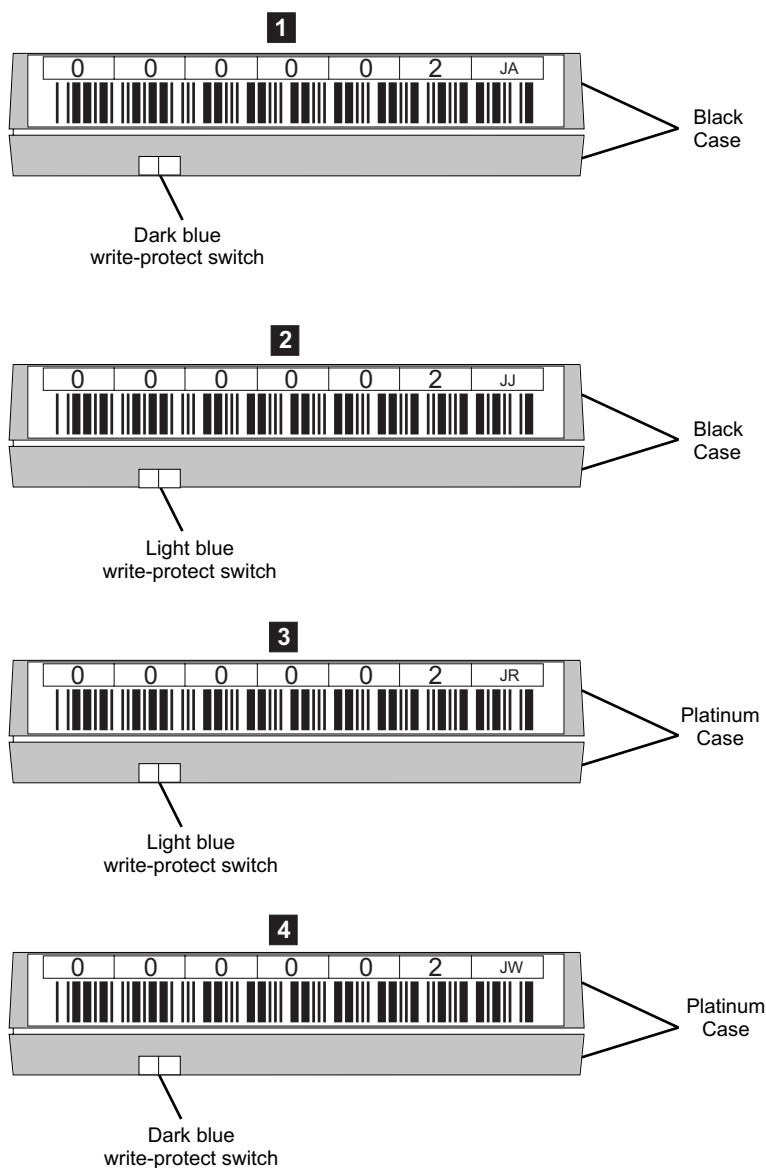

Figure 26. 3592 Tape Cartridge Labels
- **JA** identifies the Enterprise Tape Cartridge (**1** in Figure 26 on page 30).
- **JJ** identifies the Enterprise Economy Tape Cartridge (**2** in Figure 26).
- **JR** identifies the Enterprise Economy WORM Tape Cartridge (**3** in Figure 26).
- **JW** identifies the Enterprise WORM Tape Cartridge (**4** in Figure 26).
Figure 26 shows the labeling conventions of the 3592 tape cartridges.